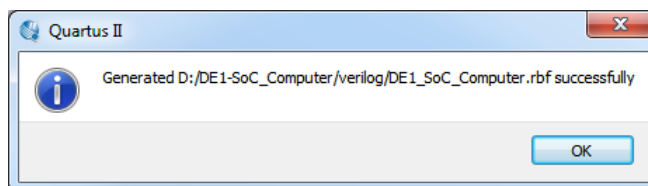

Figure 12. The .rbf file successfully generated.
7. We are now ready to generate the .rbf file. Click **Generate**. If all goes well, you will see the success message shown in Figure 12.